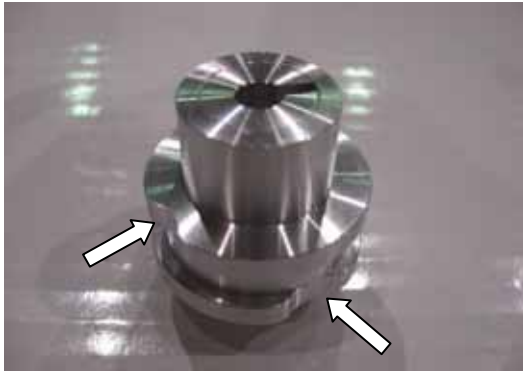

Fig. 3-128 Micro-switch Cam
- a) The unloader slide valve is assembled inside the unloader cylinder cover with the unloader piston set at the no-load (0 %) position. So the indicator cam is at the no-load position. In order to recover this original state, secure the micro-switch cam by screwing the set screw (P/N 128) in alignment with the countersink in the shaft of the unloader indicator cam. Also, secure the micro-switch while mating the micro-switch roller with the concaved part of the micro-switch cam (see the sections indicated by the arrows in Fig. 3-128.).